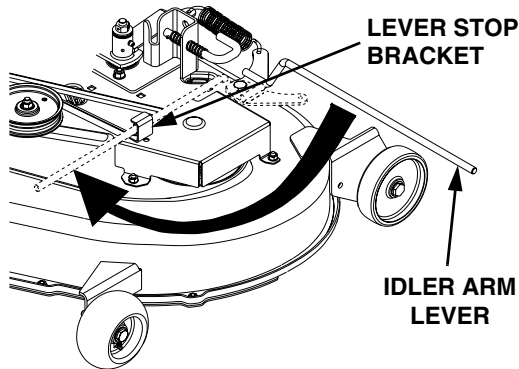

Figure 52
16. While holding the belt in position, rotate and engage the deck idler arm lever into its stop bracket to provide tension on the PTO belt (See Figure 52).